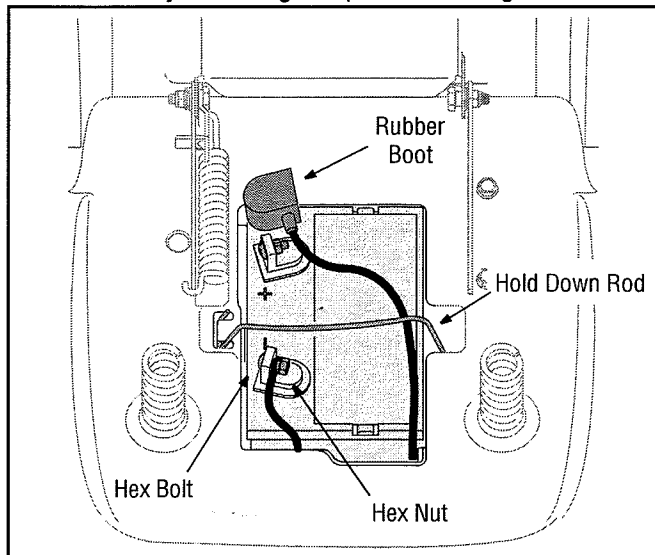

Figure 3
4. Make certain the hold-down rod is in position over the battery, securing it in place. See Figure 3.